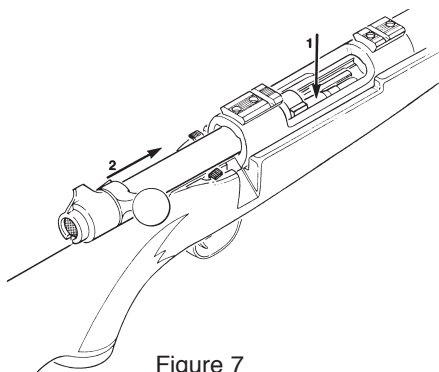

Figure 7
If you wish to load the magazine but close the bolt on an empty chamber, press up to (4) cartridges down into the magazine, one at a time. BEFORE closing the bolt, depress the top cartridge in the magazine with your thumb while slowly sliding the bolt forward so that it overrides the top cartridge in the magazine (Fig. 7). Keeping the muzzle pointed in a safe direction, remove your thumb and finish closing the bolt watching to make sure that no cartridge is pushed into the chamber.